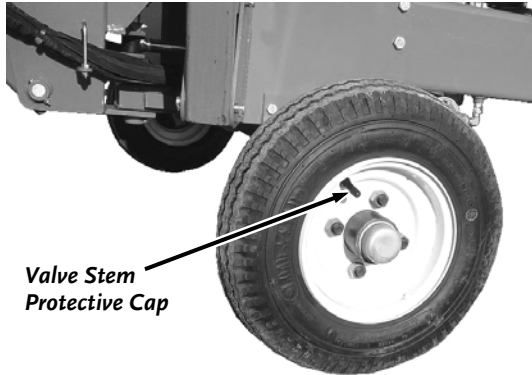

Figure 5
1. Remove the Valve Stem Protective Cap (Figure 5) and check the tire pressure with a tire pressure gauge.